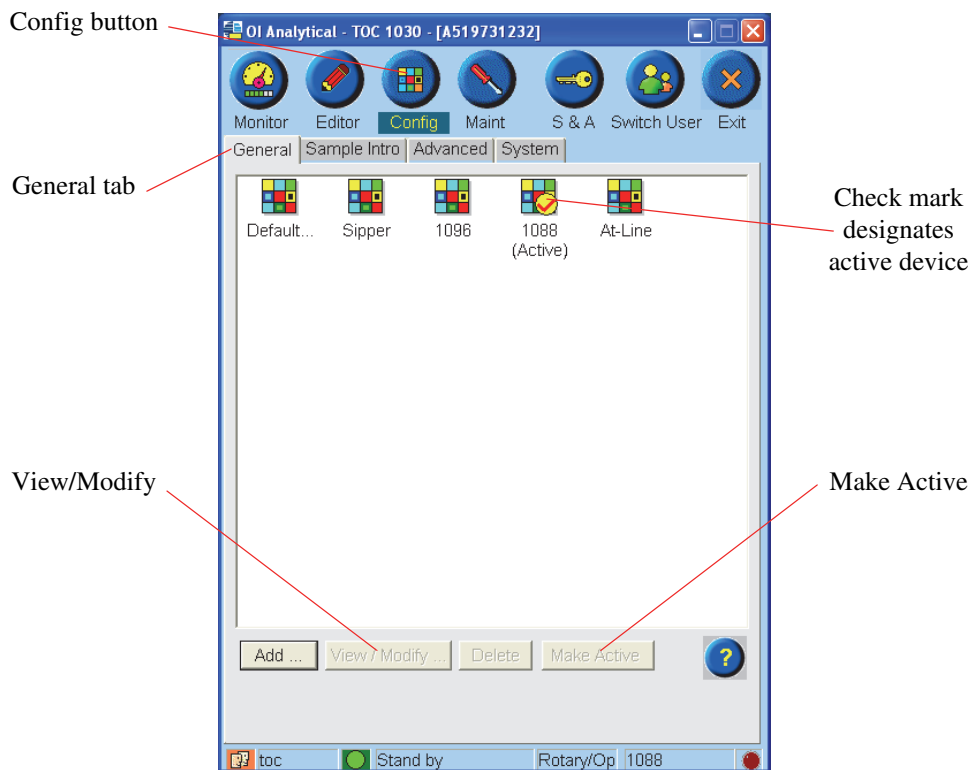

Figure 4.1. General configuration screen rotary autosampler active
1. Press **Config**. Press the **General** tab to display all configurations installed on the Aurora. A check mark inside a circle displayed on the icon designates the active configuration (Figure 4.1).
4. Select the rotary autosampler configuration by pressing its icon. Press **Make Active** at the bottom of the screen (Figure 4.1).